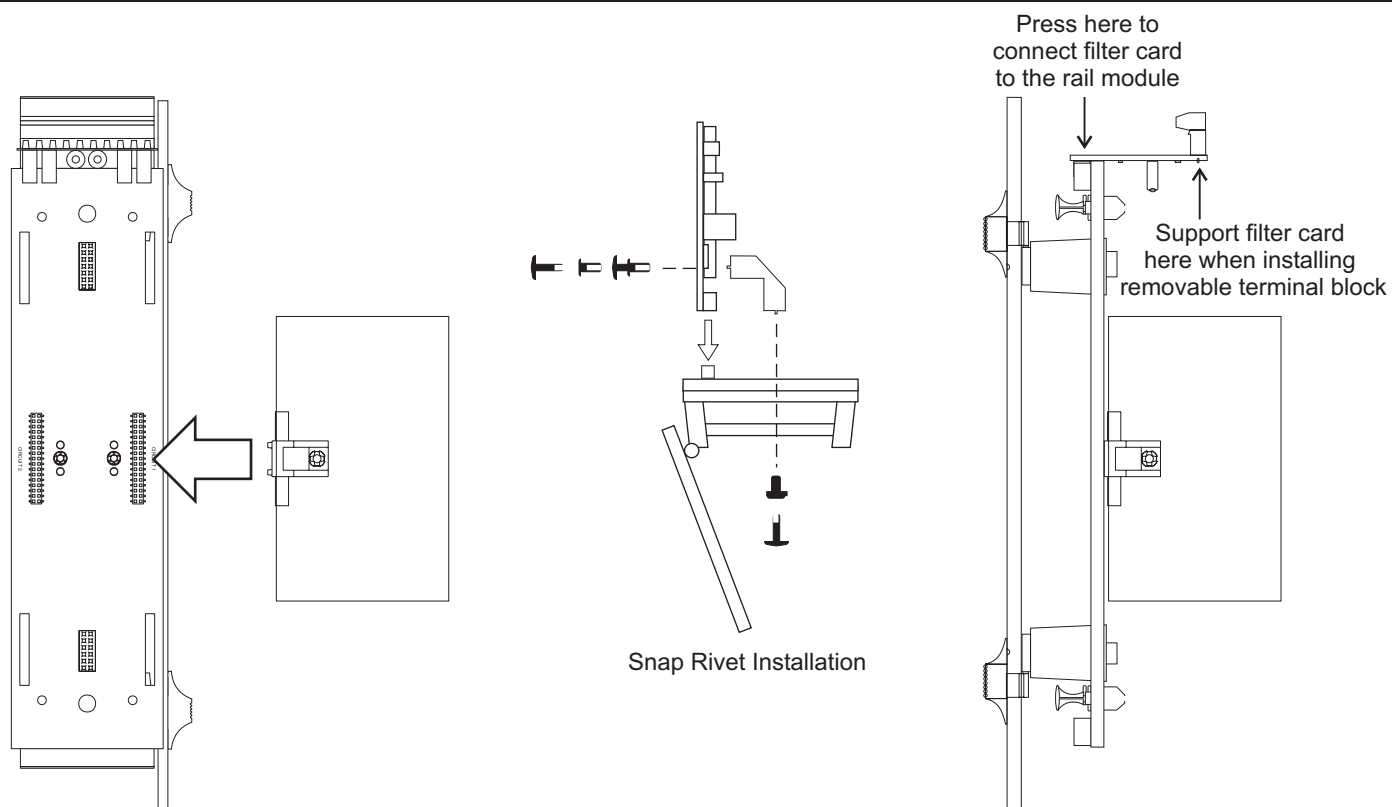

Figure-1: Filter card and LIM card installation
1. Connect the SDC card to CIRCUIT 1 on the back side of the rail module assembly. See Figure-1 on reverse side.
**Figure-1:** Tamper switches mount to the top or side of their respective cabinets and are secured using hardware provided in the hardware kit. This figure shows the installation of a 3-TAMP.